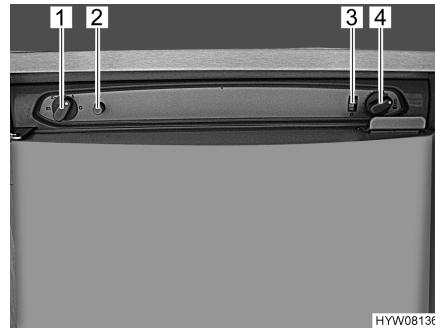

Fig. 64 Operating controls for the refrigerator
- Set energy selector switch (Fig. 64,1) to gas "▲".
- Set the control knob (Fig. 64,4) to highest level, press and hold in. Gas supply is open.
- Press lighting knob (Fig. 64,2) several times with pauses of 1 to 2 seconds.
- Keep the control knob pressed down until the flame indicator (Fig. 64,3) becomes green and then release it. If the flame goes out, repeat ignition procedure.
- Use the control knob (Fig. 64,4) to adjust the refrigerating temperature.
Switching off: ■ Set the energy selector switch (Fig. 64,1) to "O". The appliance is switched off.
- Turn control knob (Fig. 64,4) to "0".
- Set energy selector switch (Fig. 64,1) to 240 V operation "□".
- Set energy selector switch (Fig. 64,1) to 12 V operation "[-+]".